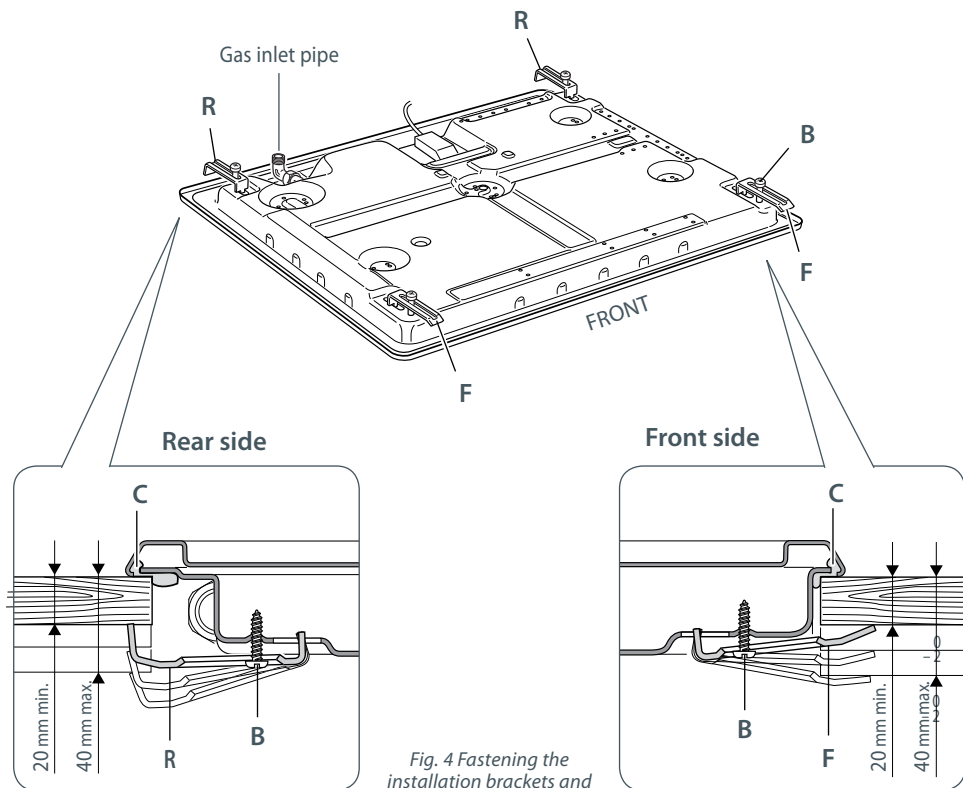

Fig. 4 Fastening the installation brackets and the cooktop
### Fastening the installation brackets (Fig. 4)
- Turn the cooktop upside down, place it on a soft surface and fasten the brackets "F" and "R" to the appropriate socket holes, without tightening the screws "B" for the moment (see Fig. 4).
### Fastening the cooktop (Fig. 4)